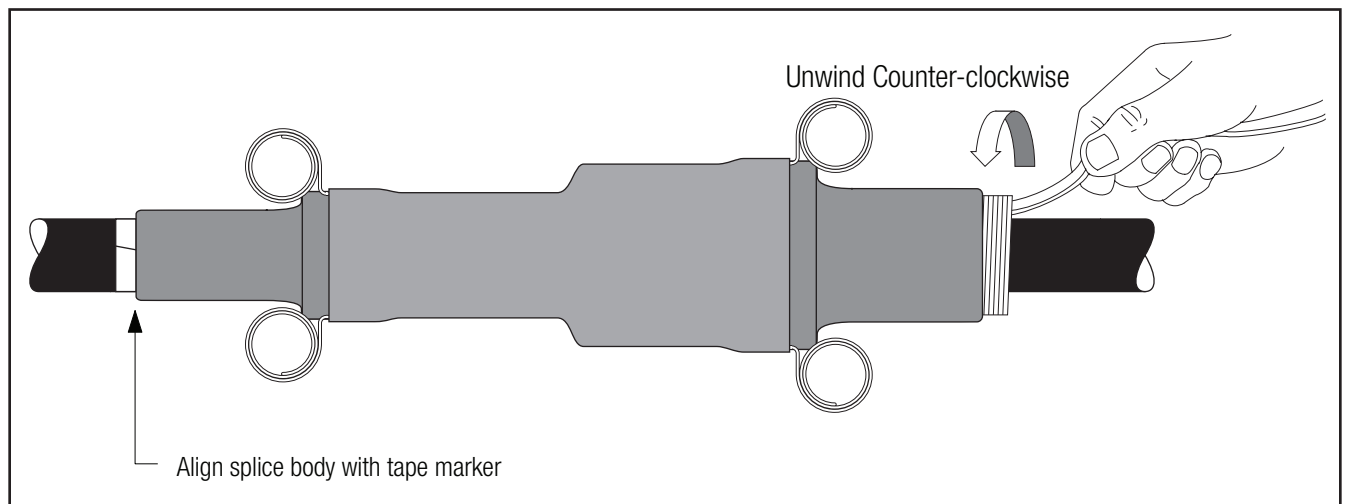

Figure 12
4.5 Position the splice body over connector area, aligning end of the splice body (not the core) at the center of the tape marker. Slowly start to remove the splice core by pulling and unwinding the loose core end counterclockwise, allowing only 1/4" (6 mm) of the splice to shrink onto the tape marker. Carefully slide the splice body off the tape marker by pulling and twisting until the entire tape marker is exposed. Continue removing the core to complete the splice body installation (Figure 12).